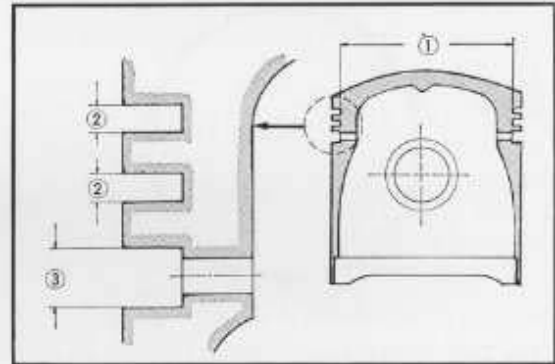

Fig. 3. 54 Piston ring groove dimensions
Measure the ring end gap by inserting the piston ring ① into the cylinder so that the ring is at right angle to the cylinder axis. (Fig. 3. 55)